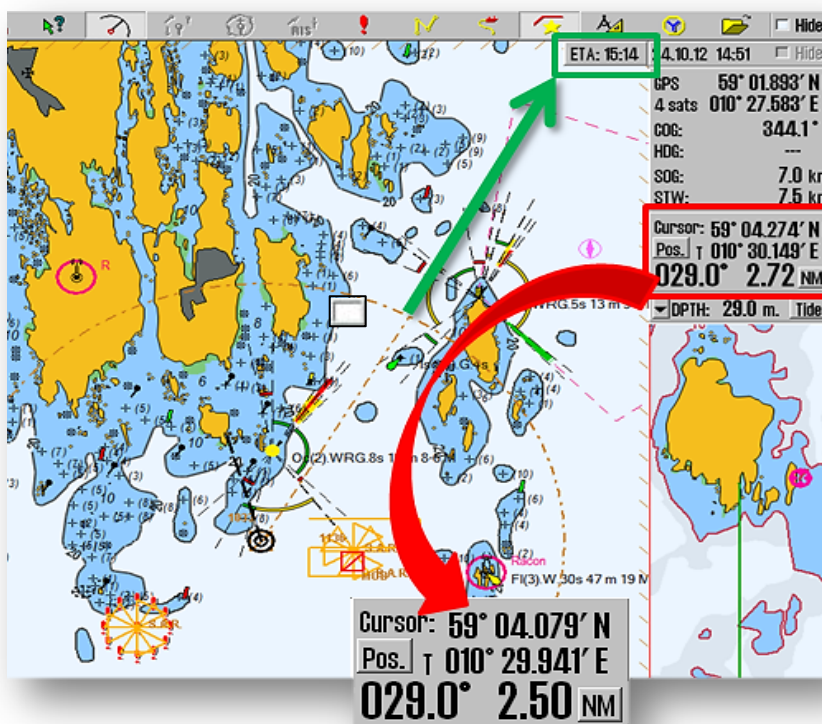

fig.2
Bearing and range information is displayed in the *cursor info field* (marked with a red frame in the fig.2). The measure unit for the distance is indicated in the lower right corner of the info field, and it can be switched between nautical miles (NM) and meters (m); the range value is given in the lower left corner of the field.
When the anchor point of the bearing (EBL/VRM origin) is locked to own vessel position, ETA (Estimated Time Arrival) to the bearing point, with SOG as constant speed, is displayed in a small window at the top right of the chart (marked with green frame in fig.2)
Estimated time commitment to go from the anchor point (*EBL/VRM* origin) to bearing point, with the current speed, is displayed in a small window at the top right of the chart (see fig.2 - marked with green frame).